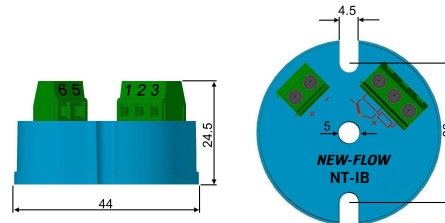

Figure 1. Dimension in mm
**Dimension** : shown in Figure 1.